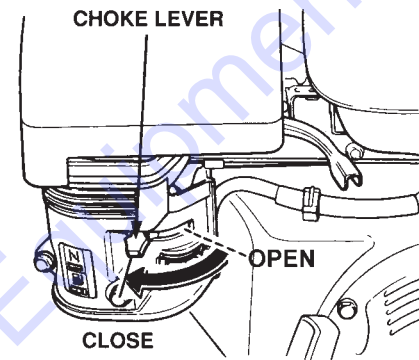

Figure 10. Engine Choke Lever
3. Place the **choke lever** (Figure 10) in the "CLOSED" position if starting a **cold** engine.